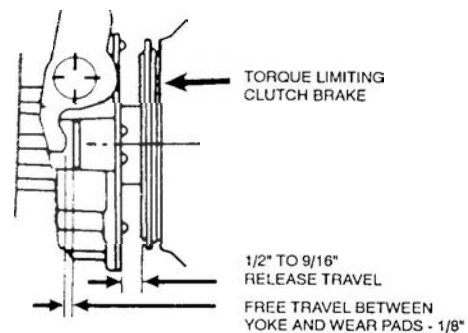

FIGURE 1
- 2. Measure clearance between release bearing housing and clutch brake. See Fig. 1. If clearance is less than 1/2" or greater than 9/16", adjust clutch as outlined in following steps: